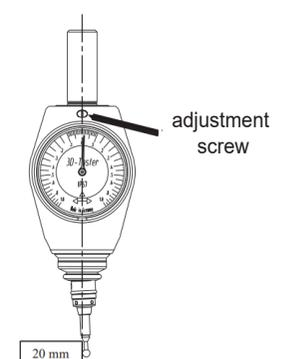

Fig. 8
---Adjust by "half the difference" using the adjustment screw and complete calibration (Fig.8)